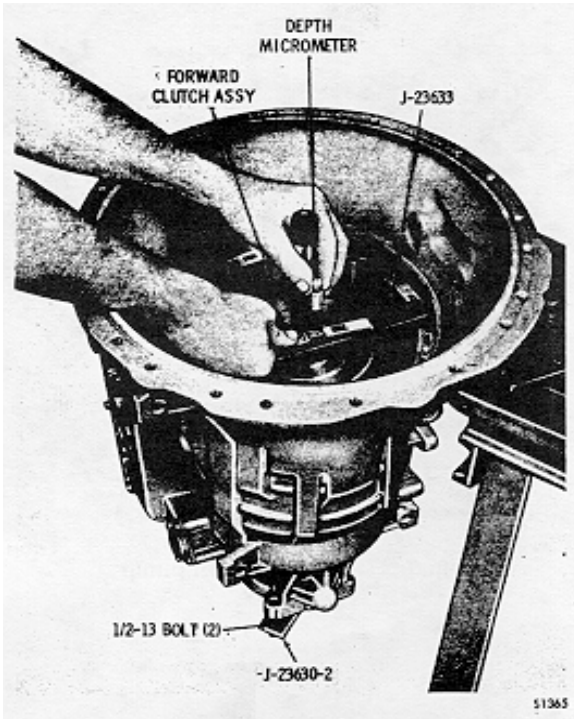

Fig. 7-24. Measuring for selection of front thrust washer
(1) Lay thrust washer selection gage bar J-23633 into the transmission housing, as shown in figure 7-24. Place the depth micrometer so that its stem passes through the center hole in the gage bar.
(2) Align the gage bar so that the micrometer stem is above the thrust washer surface of the forward clutch housing (Fig. 7-24).
(3) Measure the distance from the top of the gage bar to the thrust surface of the clutch housing (Fig. 7-24). Subtract 1.00 inch (25.4 mm) or the thickness of the gage bar and record the difference. Select the proper thrust washer from the following table.